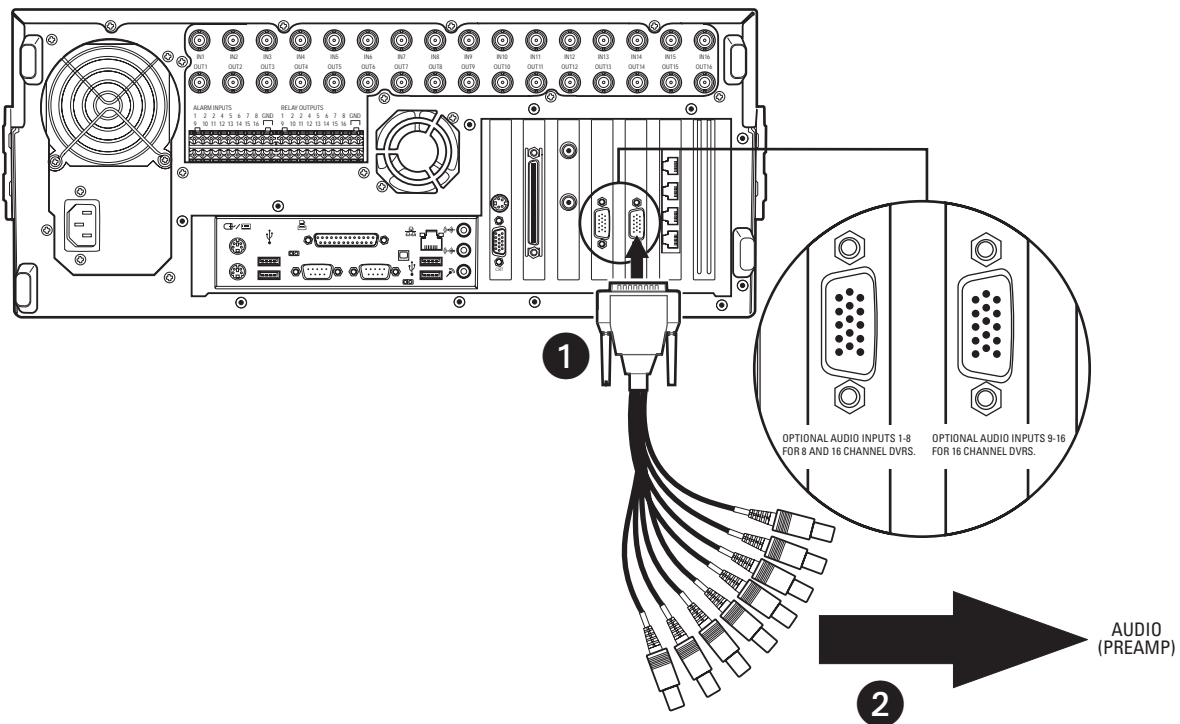

Figure 82. Audio Connector Installation
1. Connect the 15-pin D-sub audio breakout connector to the rear of the DVR to provide eight individual audio inputs. Refer to Figure 82.